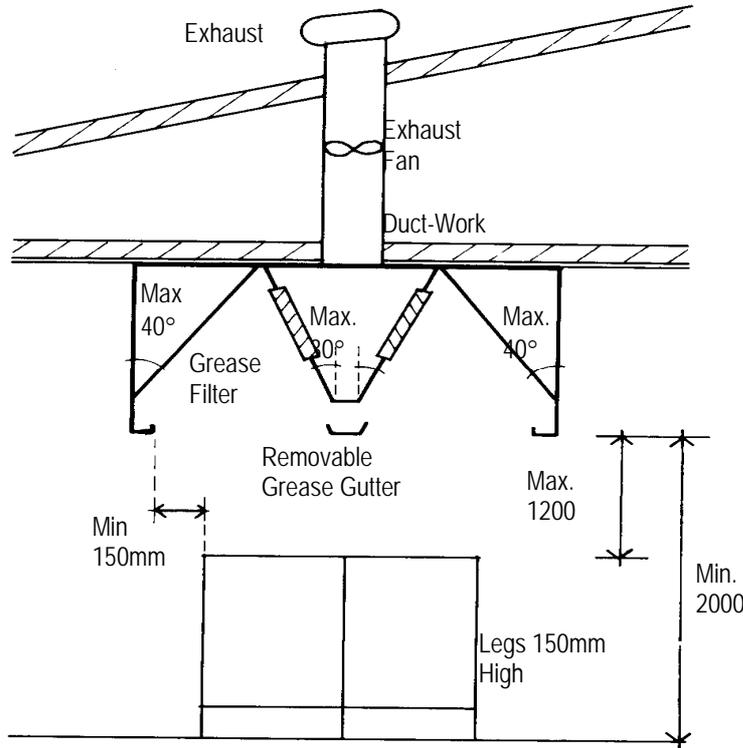

Figure 4c - Island Type canopy hood
**Island type canopy hoods** (Figure 4c) are used where they are located in the centre of the kitchen with equipment not against the wall. On all sides, 150mm between the inside edge of the grease gutter and the perimeter of fittings applies.